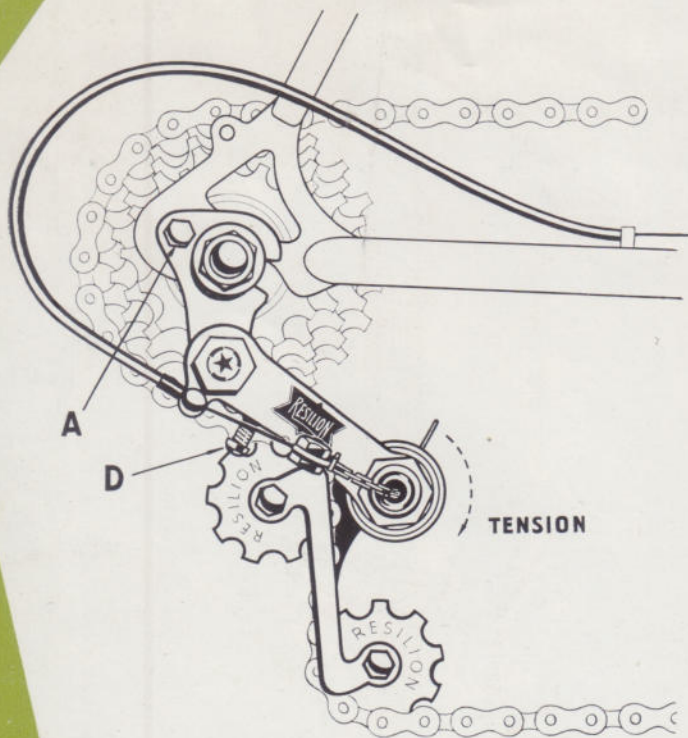

Fig. 1
1. Fit gear to fork end and tighten anchor bolt "A" in top of attachment bracket (Fig. 1) and lock wheel in position, using the spanner provided.
3. Run chain through jockey sprockets and over low gear cog as Fig. 1, and adjust screw "D," so that one roller of chain is clear between gear and jockey sprockets. Correct chain length is important. The gear should appear as in the illustrations. Use a riveted chain (not spring link) and ensure riveted link is not stiff.